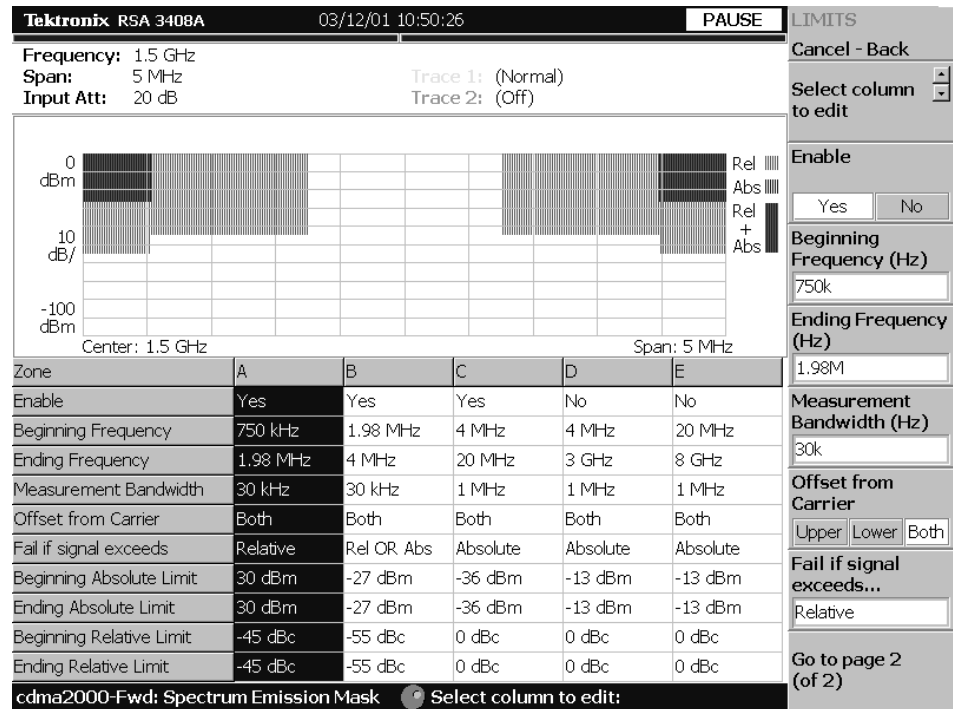

Figure 2-31: Spectrum emission mask measurement limits editor
3. Press the **Edit ACPR Limits...**, **Edit SEM Offset Limits...**, **Edit SEM Inband Limits...**, or **Edit Gated Output Power Limits...** (reverse link measurements only) side key. This opens the limits editor to set more complex limits for the ACPR, spectrum emission mask or gated output power measurement. Figure 2-31 shows the measurement limits editor for the ACPR measurement.
When you select the SEM Offset From Channel or SEM Inband Spurious row in the measurement limits editor, another measurement limits editor for the spectrum emission mask measurement is displayed. Figure 2-31 shows the measurement limits editor for the spectrum emission mask measurement.